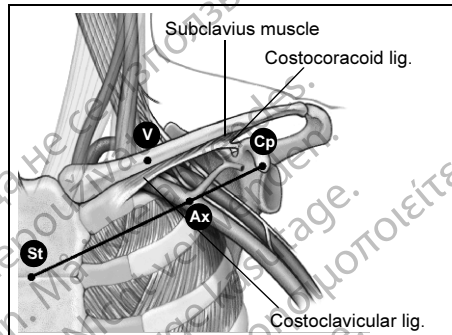

Figure 2. Landmarks identify the entry point for a percutaneous subclavian venipuncture.
1. Referring to Figure 2, identify points St (sternal angle) and Cp (coracoid process).